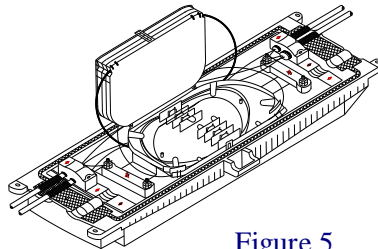

Figure 5
- Seal the cover of seal fitting. See figure 5